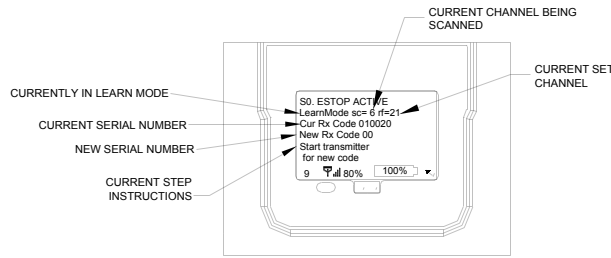
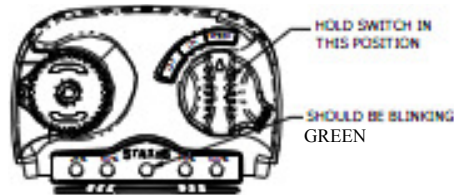

Figure 1—LCD screen display during step 2
Figure 2—Transmitter Switch Position
2. After the LEARN tag has been put into place and the receiver is powered up, it will begin to search for the proper Channel and Serial Number of the transmitter. **Note: The transmitter must be powered up and the start/speed button must be held in the “speed” position. Make sure the transmitter is blinking the green led in the center. Reference figure 1 below for LCD screen display during this step. Reference figure 2 below for transmitter switch position.**